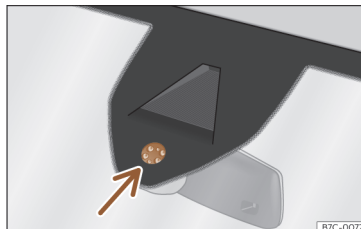

Fig. 93 Rain sensor sensitive surface
Possible causes of faults and mistaken readings on the sensitive surface >>> Fig. 93 of the rain sensor include:
- Regularly clean the sensitive surface of the rain sensor >>> Fig. 93 (arrow) and check for possible damage to the wiper blades.